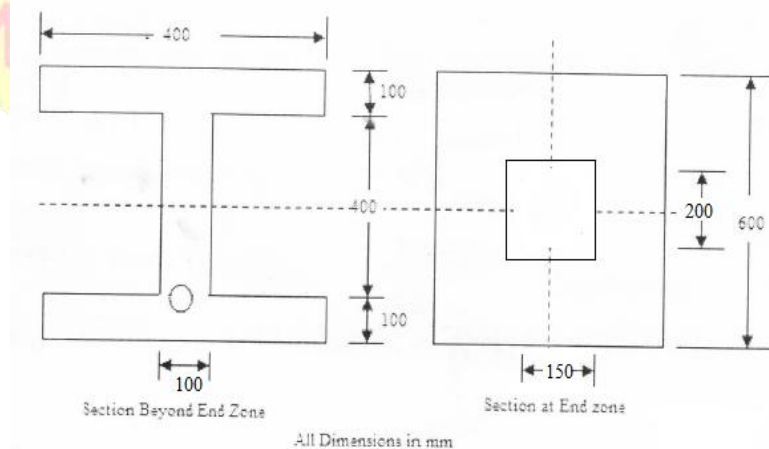

Figure 3
12. Design the bearing plate and the end zone reinforcement for the following bonded post-tensioned beam shown in figure 3. The strength of concrete at transfer (f_{ci}) is 50N/mm^2 . A prestressing force of 1055kN is applied by a single tendon symmetrically placed over a mild steel anchor of size $150\text{mm} \times 200\text{mm}$. Permissible bending stress for the bearing plate is 165 N/mm^2 . There is no eccentricity of the tendon at the ends. Use Fe250 grade steel for reinforcement.